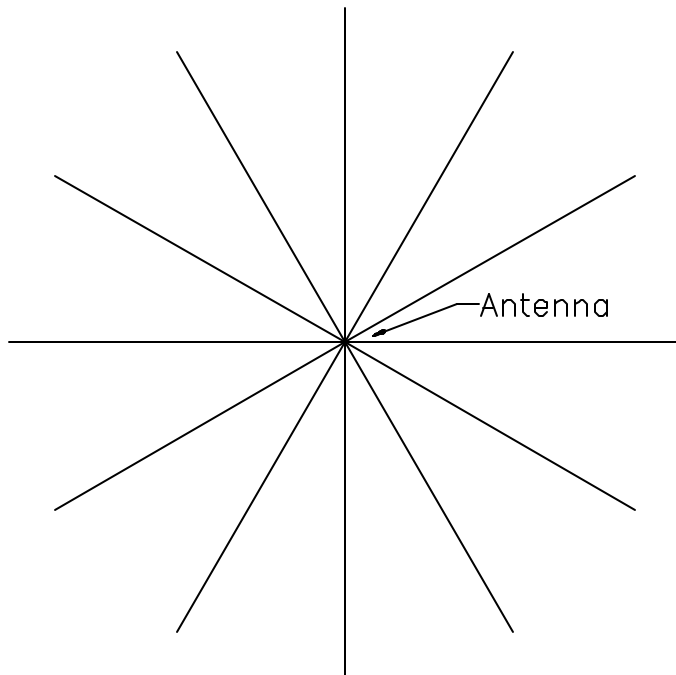
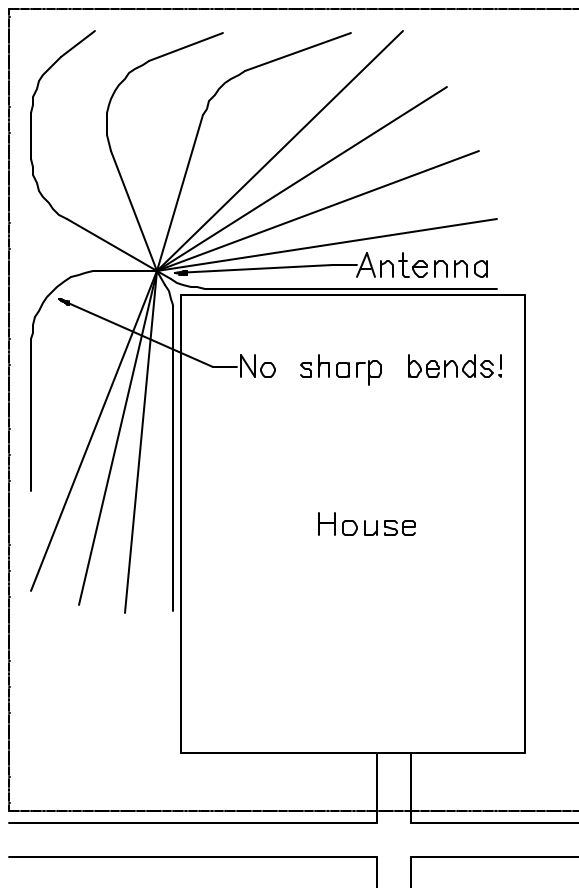

Figure 2
Figure 3
Ideally the antenna should be installed 30 ft (9.1 m) from any structure as shown in figure 2. In most cases this will not be practical and an alternative method such as the one shown in figure 3 may be used.
5. Fan out radials as shown in figures 2 or 3. Make sure that the radials are as equally spaced as possible.
Ideally, radials should be equally spaced as in figure 2 but in most cases they will need to be bent around structures and other obstacles as in figure 3. Make sure that you make your bends no sharper than 90° and as gradual as possible.